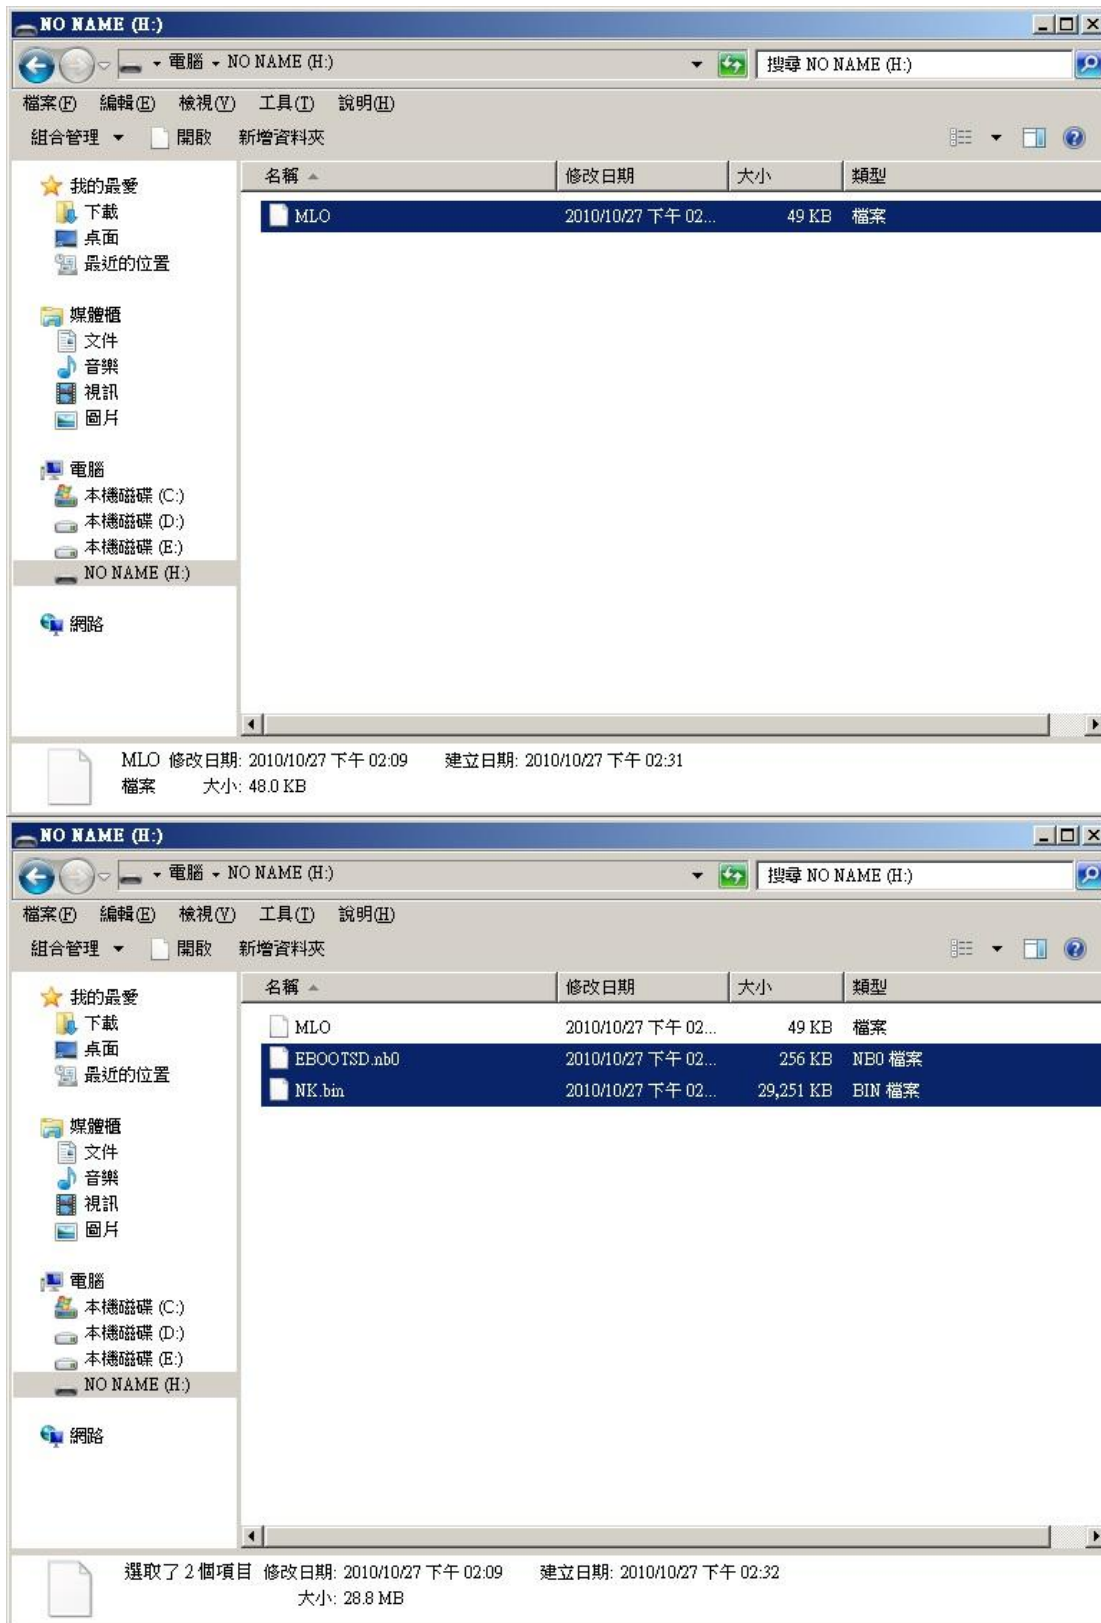

Figure 108
- Then copy “EBOOTSD.nb0” and “NK.bin” in the microSD card (See Figure 108)